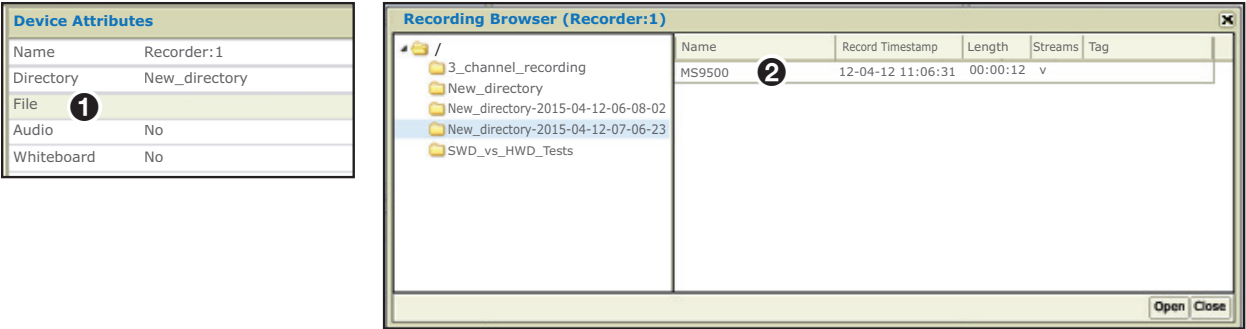

Figure 98. Create a File
A file is created when a recording begins. If the file field is blank when the recording starts (see figure 98, ❶), the device name of the encoder is used as the filename (❷).